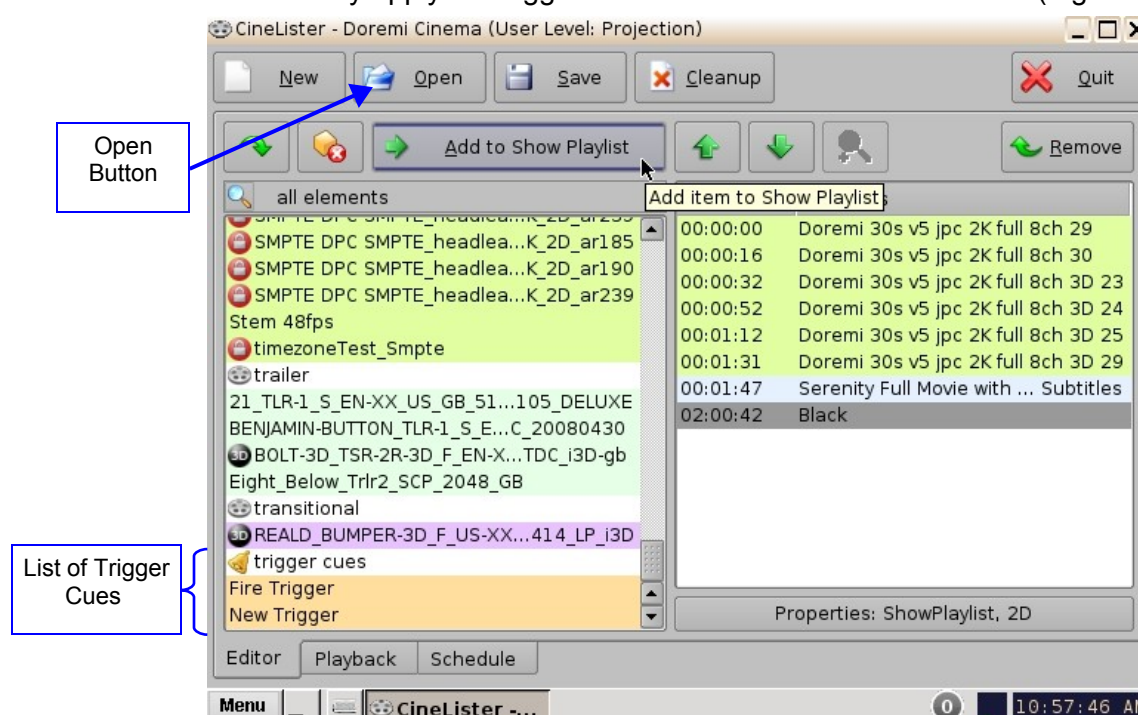

Figure 204: CineLister GUI – Editor Tab
- In the Editor tab, select a Trigger Cue on the left part of the GUI and click on Add to Show Playlist (Figure 204).
- The Edit Trigger Cue window will appear (Figure 204).
- The default setting is to add the Trigger Cue to all elements of the Show Playlist (Figure 204).
Note: If the user selects the trigger cue to be available only for one element of the SPL, the server will automatically apply the trigger cue to the last element in the SPL (Figure 204).
- Click on the Open button from the CineLister Editor tab (Figure 204).